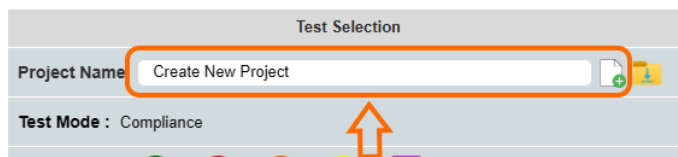

FIGURE 8.23: CREATE NEW PROJECT— #1
1. Click on **Create New Project** as indicated in Figure 8.23 below.